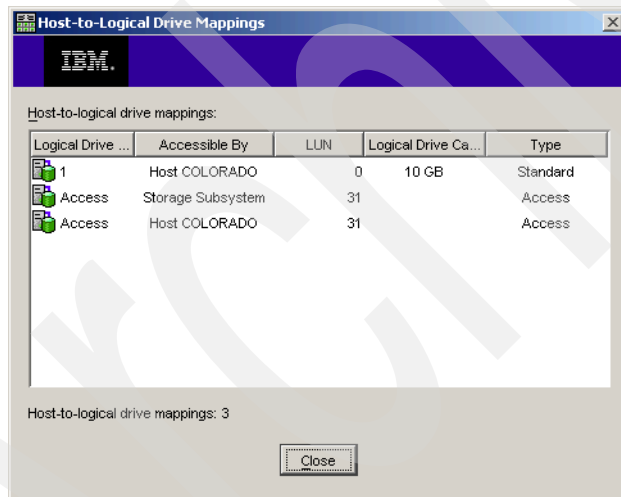

Figure 16-16 Host server COLORADO mapped to logical drive 1
4. Our host server COLORADO is now mapped to logical drive 1. To confirm this, we run the Host-to-Logical-Drive-Mappings task in the Summary tab. As you can see in Figure 16-16, the mapping has been set up correctly.